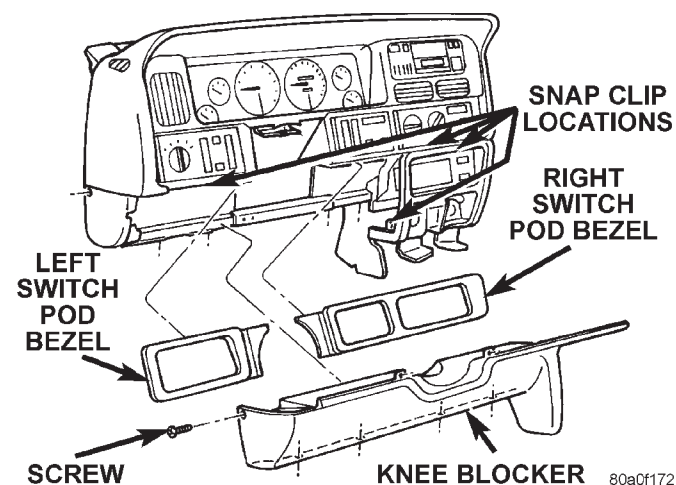

Fig. 4 Knee Blocker Remove/Install
- (1) Disconnect and isolate the battery negative cable.
- (2) Remove the tilt steering column lever, if equipped.
- (3) Using a trim stick or other suitable wide flat-bladed tool, pry gently around the edges of the switch pod bezels and remove both bezels.
- (4) Remove one screw on each side of the steering column on the upper edge of the knee blocker/steering column cover (Fig. 4).
- (5) Remove one screw securing the left end of the knee blocker to the instrument panel.
- (6) Remove the four screws securing the lower edge of the knee blocker to the lower instrument panel reinforcement.
- (7) Using a trim stick or other suitable wide flat-bladed tool, gently pry the edges of the knee blocker away from the instrument panel at the locations shown (Fig. 4).
- (8) Remove the knee blocker/steering column cover from the vehicle.